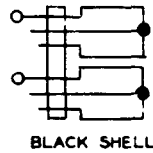

Fig. 7—331A Plug
2.06 331A: The 331A (Fig. 7) is a twin-plug that has solid fingers and a shell of black insulating material. The 331A plug is used on circuits requiring make busy plugs, and is used in short-circuiting of tips, rings, and sleeves of the 242-type jacks.